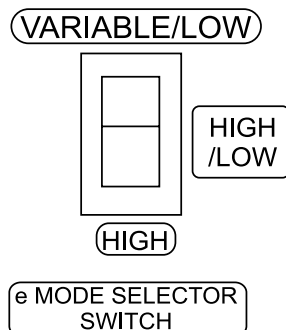

Figure 39. E-Mode Selector Switch (CV Mode)
- Place e-Mode selector switch (Figure 39) in the desired position as defined by Table 21 or Table 22. This switch is a 3-position rocker switch.